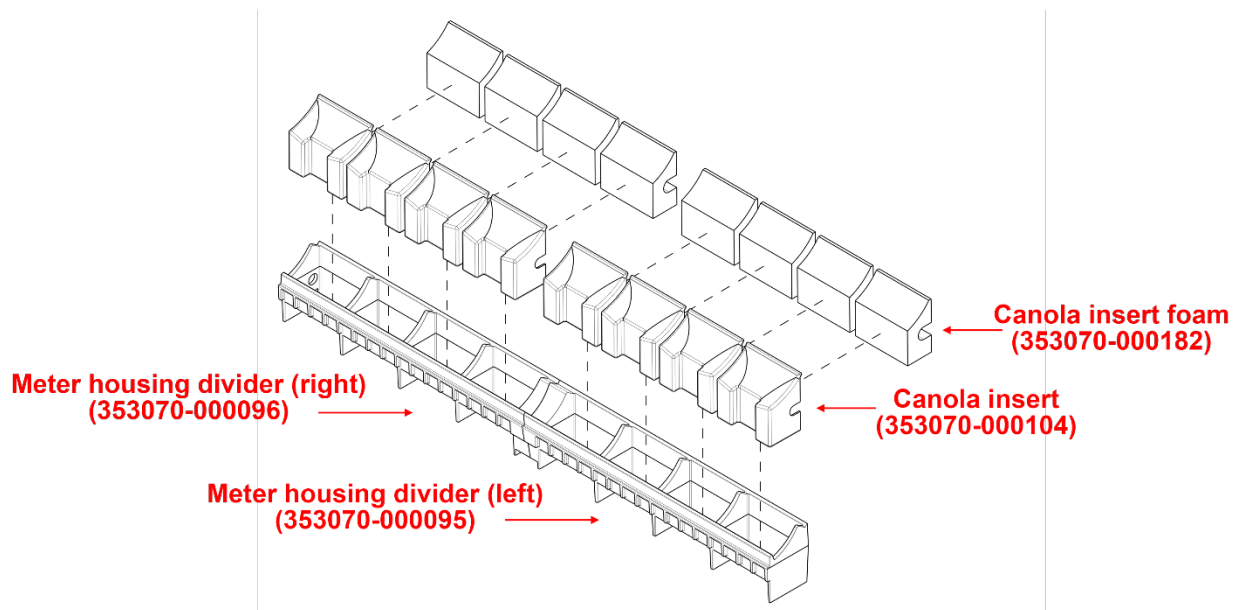

Figure 6: Inserting canola inserts
4. If you are applying canola seed or other low rate/small seeds, place canola insert foam (353070-000182) into each canola insert (353070-000104). Then, place a canola insert into each section of the meter housing dividers (353070-000095 and 353070-000096), as shown in Figure 6.
5. Insert the supplied left and right meter housing dividers (353070-000095 and 353070-000096) into the meter housing as shown in Figure 6, ensuring that the hole in the right divider lines up with the pressure port. Then, insert the provided sealing wedge (353070-000098).